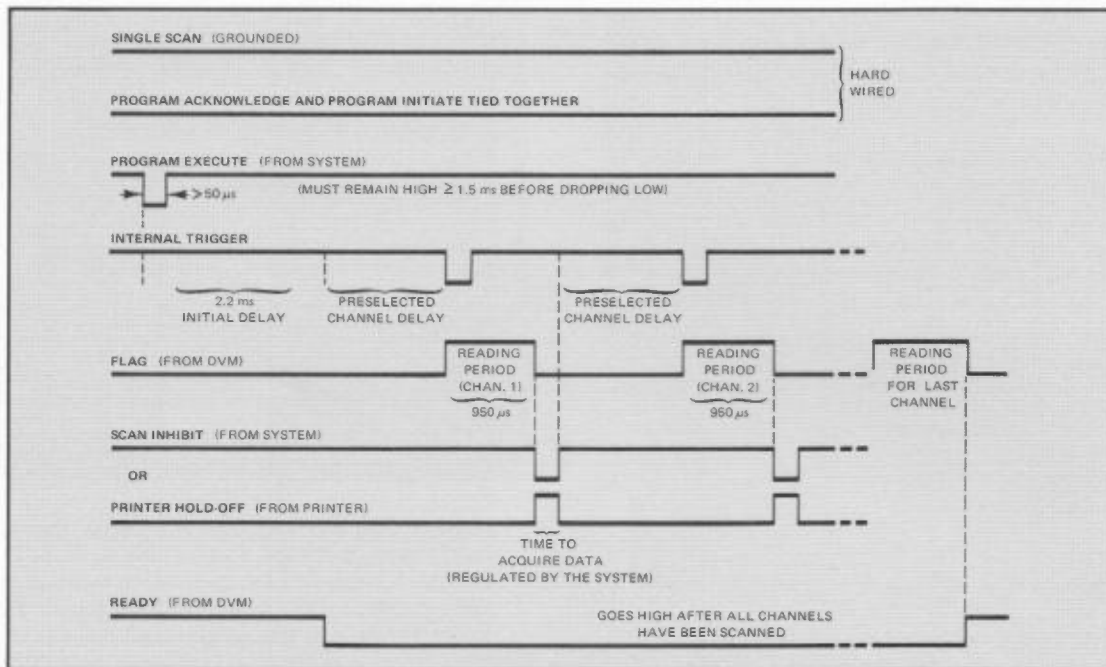

FIGURE 4
- The desired mode of operation is hard-wired in. PROGRAM ACKNOWLEDGE is wired to PROGRAM INITIATE to eliminate a separate initiate line. PROGRAM EXECUTE will strobe the information into remote control and after a 2.2ms delay, will start the scan sequence automatically. Refer to Figure 4 for timing.